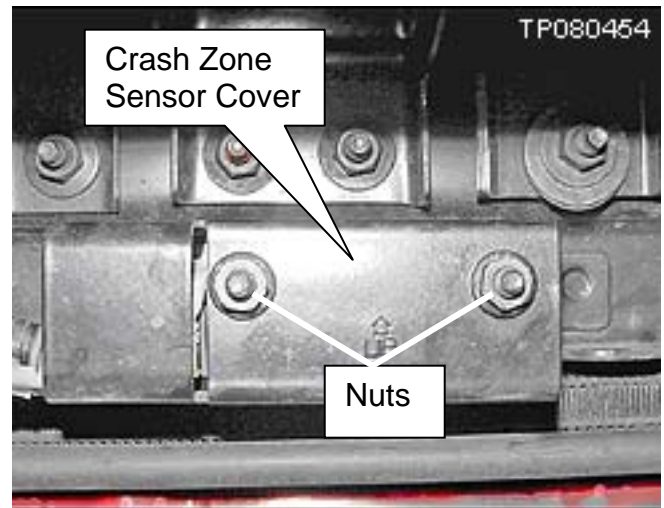

Figure 3
9. Remove the 2 Crash Zone Sensor nuts shown in Figure 3.